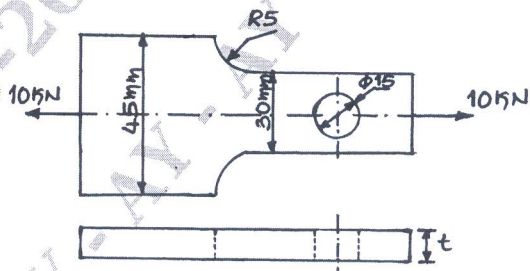

Fig.Q2(c)
c. A flat plate as shown in Fig.Q2(c) is subjected to a tensile force of 10 kN. The plate material is grey cast iron FG200 ($\sigma_u = 200 \text{ N/mm}^2$) and factor of safety is 2.5. Determine the thickness of the plate.